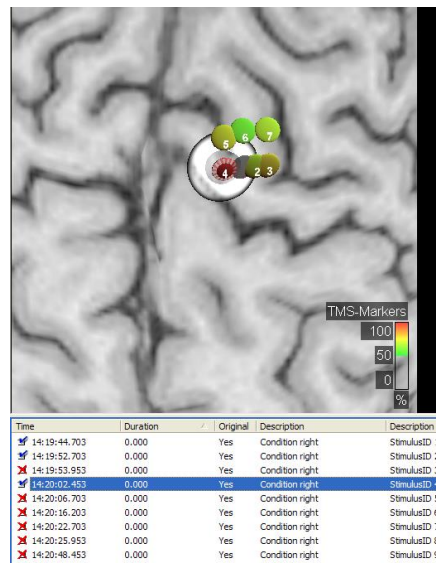

FIGURE 45: POSITIONING THE CROSSHAIR OVER A TMS MARKER
- Position the crosshair at the location where you wish your image marker to be placed. If you want to place the image marker over a TMS Marker, select the TMS Marker in the list. The position of the crosshair will be adjusted according to your selection, as displayed in Figure 45.